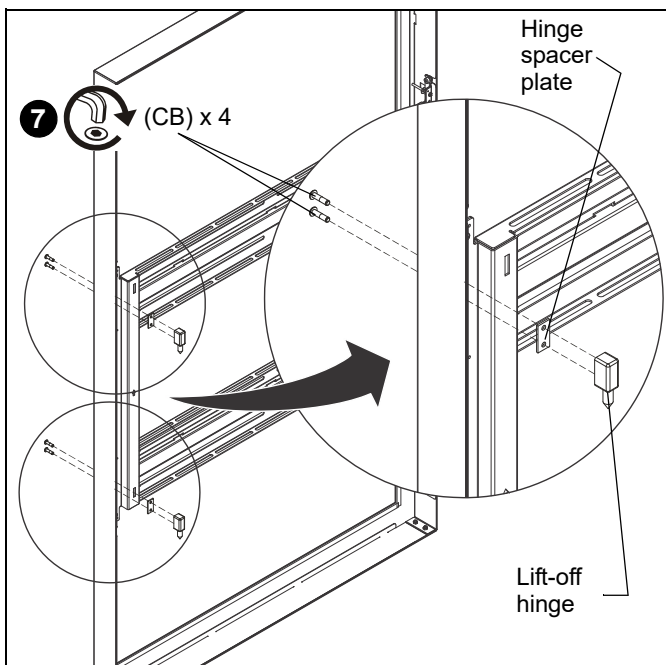

Figure 16
6. Replace two lift-off hinges and hinge spacer plates onto opposite side (left) of swing door. (See Figure 16)
7. Fasten in place with four (two each hinge) **NEW** 10-32 x 3/4" button head cap screws (CB). (See Figure 16)